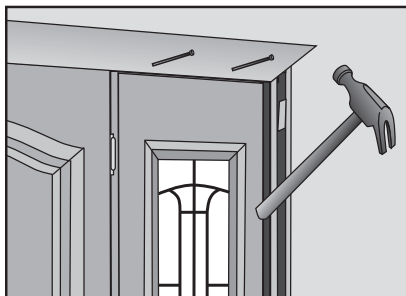

Fig. 34
- Measure, cut and set one trim leg. Reveal of the trim to be approximately 3/16" from inside edge of jamb. Measure both ends of head trim, cut, if necessary, then set (**Fig. 34**). Measure, cut and set other trim leg.